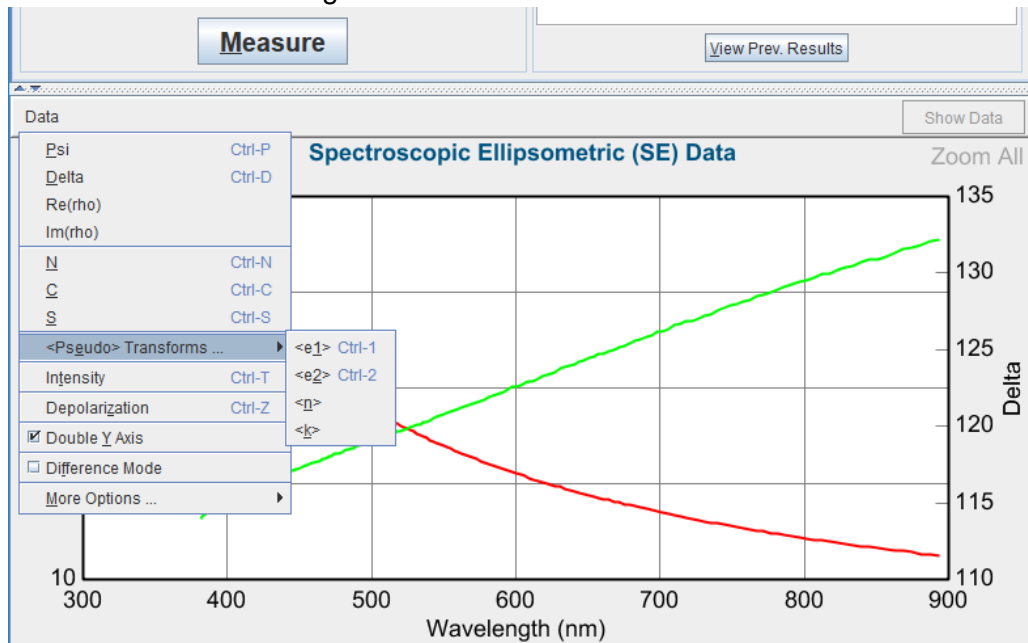

Figure 9: display n and k data.
- 9) The n and k values can be displayed by clicking the data and choosing <Pseudo> Transforms... (Figure 9)